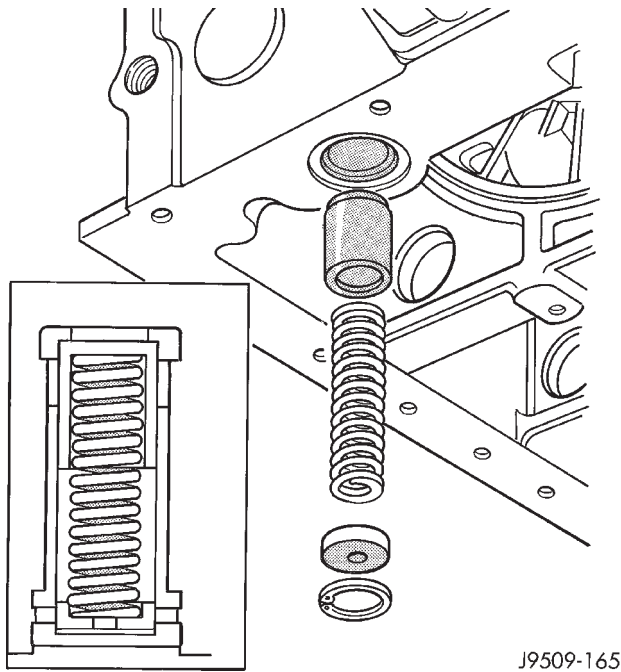

Fig. 88 Oil Pressure Relief Valve
- (3) Remove the relief valve snap ring.
- (4) Remove the relief valve cap, spring, and plunger (Fig. 88).
- (5) Check the relief valve spring length. Relief valve spring free length is 57.5mm (2.263 in.). If spring length is less or spring is distorted it must be replaced.
- (6) Check the plunger for scoring, replace if necessary.